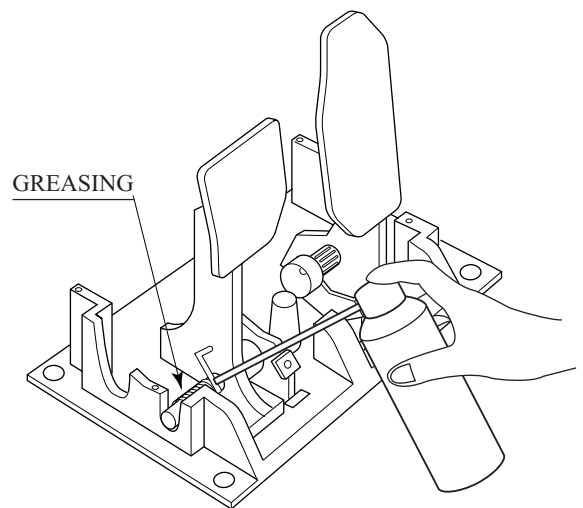

FIG. 11. 2
- ① Take out the 2 truss screws and remove the Front Cover from the Accel. & Brake Unit (FIG. 11. 1 a).
- ② Loosen the screw which secure the Potentiobase, and adjust the Volume value by moving the Base. (FIG. 11. 1 b)
- ③ Secure the Potentiobase.
- ④ Perform volume setting in the volume setting mode.
- ① Turn the power off.
- ② Take out the 2 screws and remove the Potentiocover (FIG. 11. 1 c).
- ③ Disconnect the connector of the volume to be replaced.
- ④ Remove the screw which secures the Potentiobase (FIG. 11. 1 b).
- ⑤ Remove the Potentiobase together with the volume as is attached. (FIG. 11. 1 c)
- ⑥ Remove the base and the gear to replace the volume.
- ⑦ Adjust the volume as per the previous page after replacing.